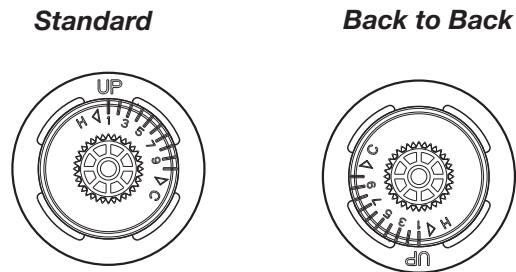

Figure 2.
### BACK TO BACK INSTALLATION (FIGURE 2, 3 & 3A)
- Rotate CARTRIDGE (1) 180° so that the Up text is displayed on the bottom side. As shown in **FIGURE 2**.